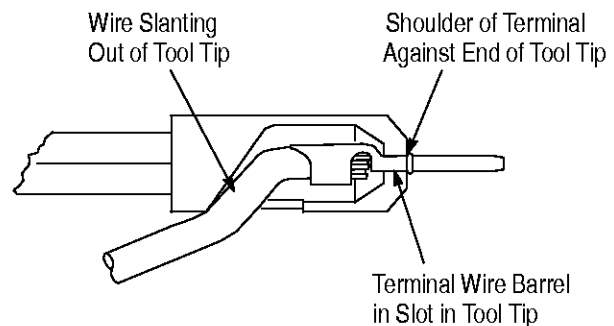

Figure 2
1. Position the wire barrel of the terminal into the slot in the tip of the tool. Make sure that the shoulder of the terminal butts against the end of the tip. See Figure 2.